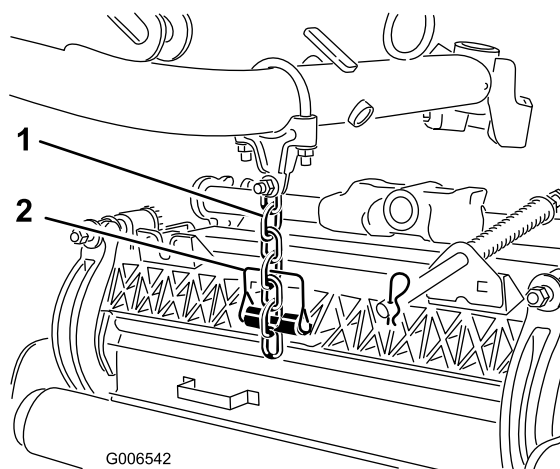

Figure 18
7. Secure the lift arm chain to the cutting unit chain bracket (Figure 18) with the snapper pin as follows: